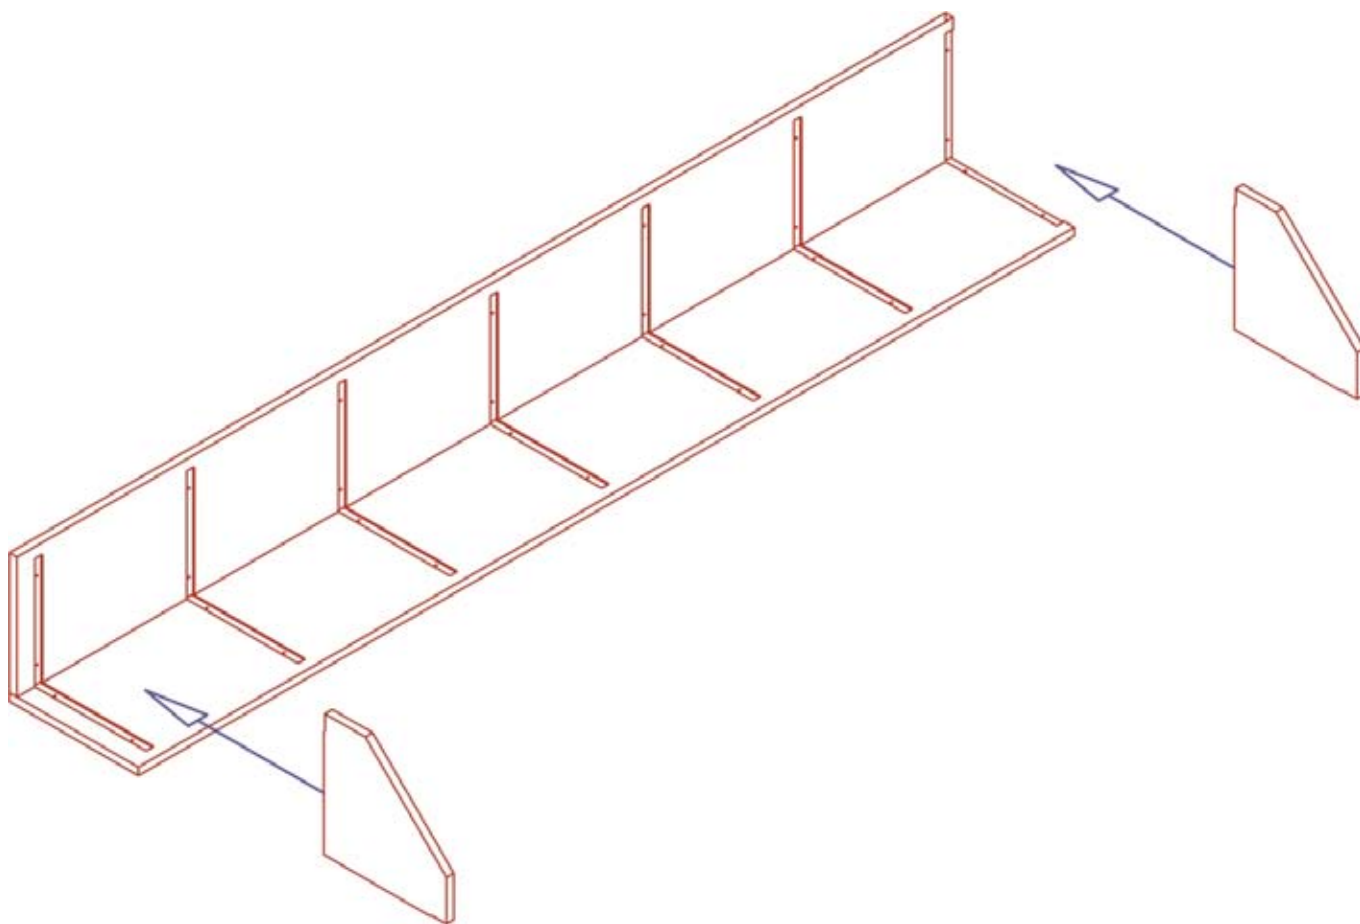

Figure 3
5. Locate your top and bottom panels and place them into the dados (or grooves) on the very top and very bottom of your quarter round display sides (**Figure 3**). Be sure to have the branded side of the bottom panel facing up.